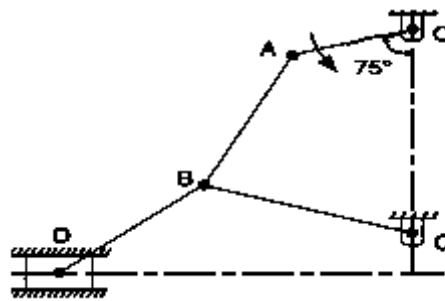

Figure 1
- (b) For the mechanism shown in Figure 1. The crank OA rotate with 500 rpm. Determine the linear velocity of the slider D and the angular velocity of the link BD, when the crank is inclined at an angle of 75° to the vertical. The dimensions of various links are OA = 28 mm. AB = 44 mm. BC = 49mm and BD = 46mm. The Centre distance between the Centre's of rotation O and C is 65 mm. The path of travel of the slider is 11 mm below the fixed point C. The slider moves along a horizontal path and OC is vertical. [7M]